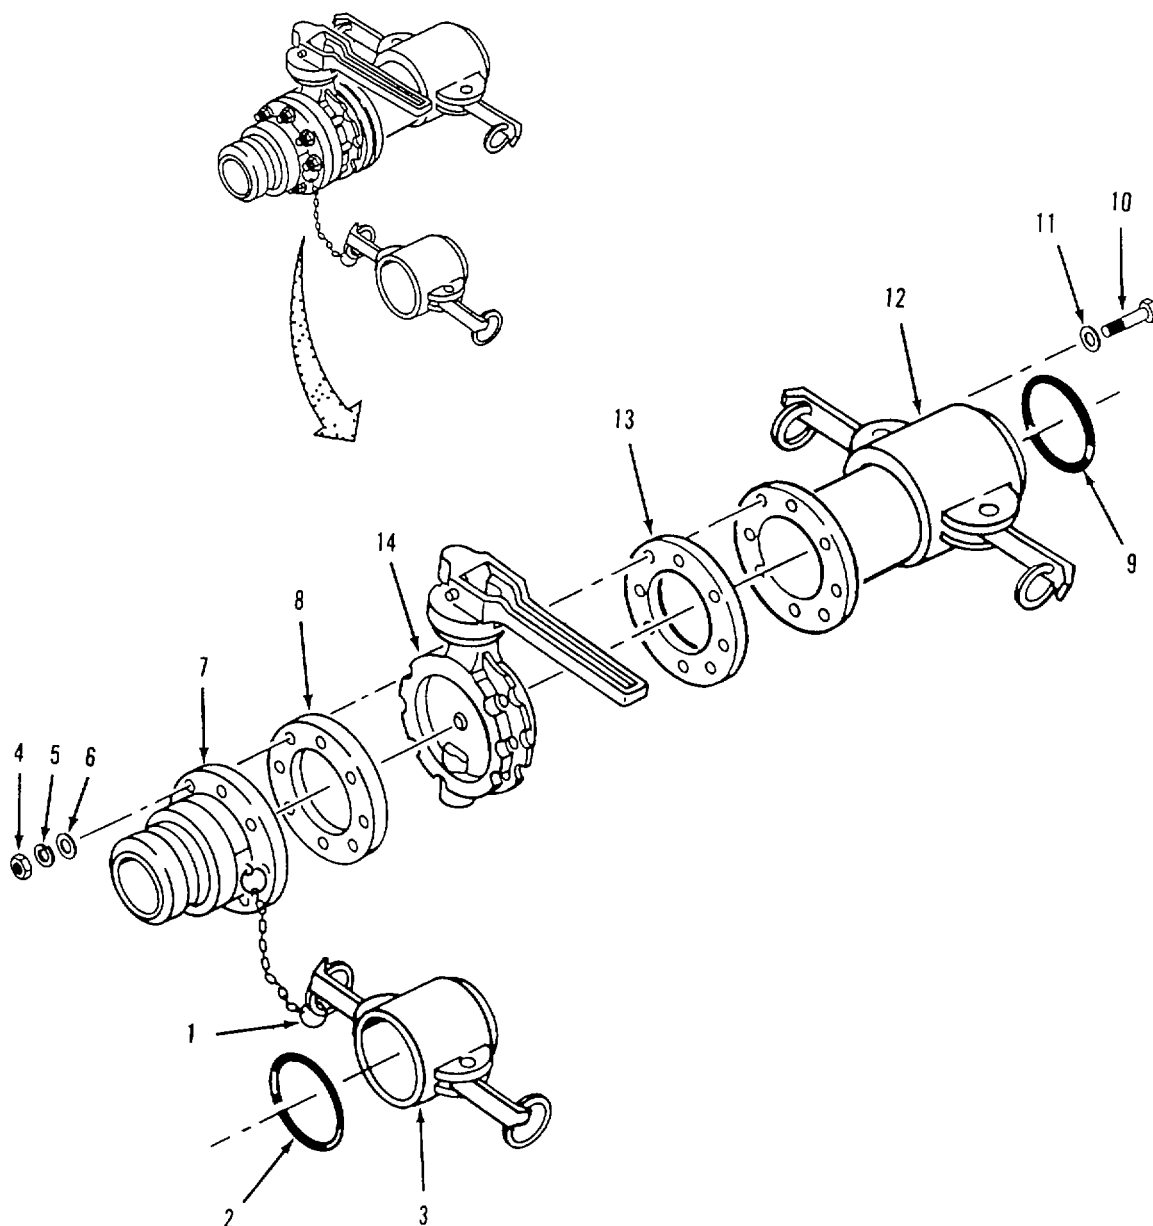

Figure 4-16. Butterfly Valve Disassembly.
Butterfly value removal Refer to figure4-16.
- (1) Inspect male coupling (7, figure 4-16), female coupling (12) and cap (3) for cracks and corrosion.
Butterfly valve installation Refer to figure 4-16.